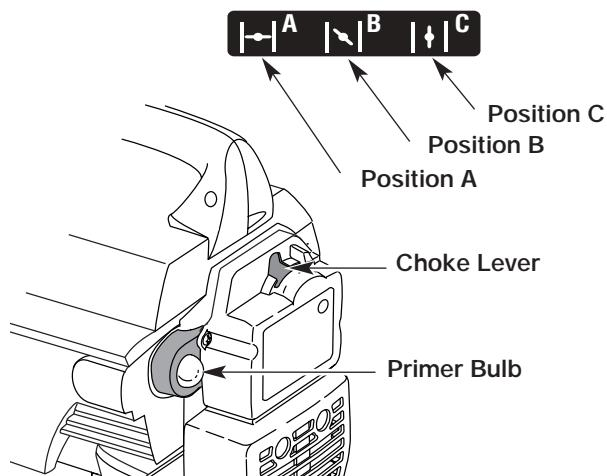
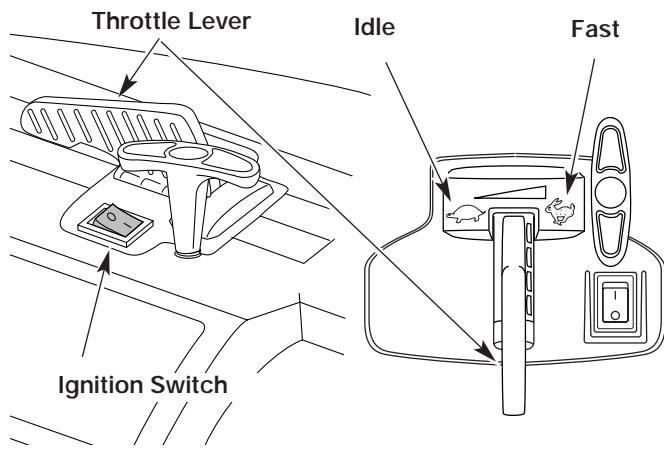

Fig. 11
Fig. 10
NOTE: The ignition switch is a momentary switch and is always in the ON (I) position (Fig. 10).
- Fully press and release primer bulb slowly 10 times. Petrol should be felt and visible in the bulb (Fig. 11). If petrol hasn't entered the bulb, press until it does.
- Place the choke lever in Position A (Fig. 11).
- With the unit on the ground, move the throttle lever to the fast position (↗) (Fig. 10).
- Place the choke lever in Position B (Fig. 11).
- Allow the engine to warm up for 5 to 10 seconds. Place the choke lever in Position C (Fig. 11).
NOTE: If the engine floods while trying to start, place the choke lever in Position C. Move the throttle lever to the fast position (↗) (Fig 10). Pull the starter rope briskly. The engine should start with three (3) to eight (8) pulls.
NOTE: Choking is unnecessary when starting a warm engine. Put the throttle lever in the fast position (↗) (Fig 10) and start unit with the choke lever in Position B (Fig. 11).
- Move the throttle lever to the idle position (Idle) (Fig. 10). Allow the engine to cool down by idling.
- Press and hold the ignition switch down in the **STOP [O]** position until the engine comes to a complete stop (Fig. 10).
1. Put the Ignition Switch in the **OFF** position [O] (Fig. 10) and wait for the impeller to stop rotating.